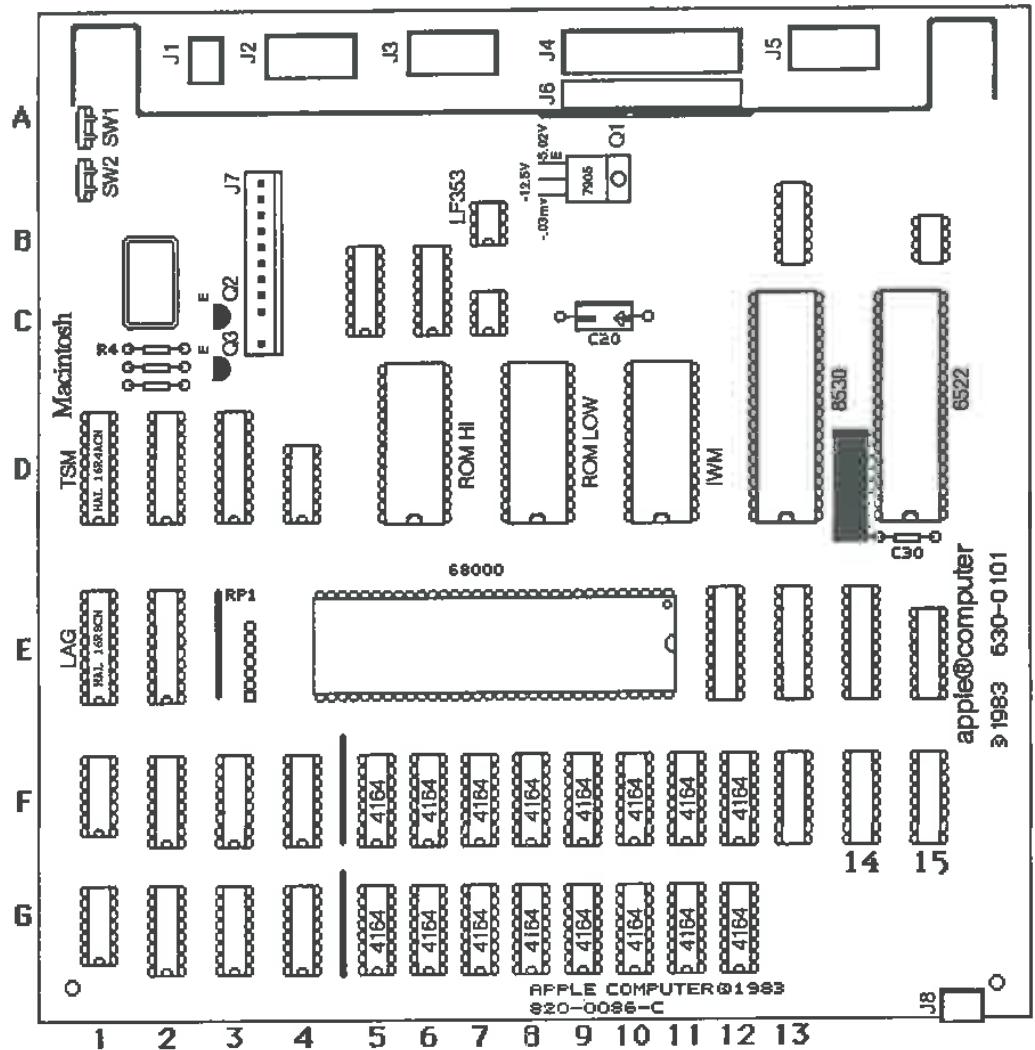
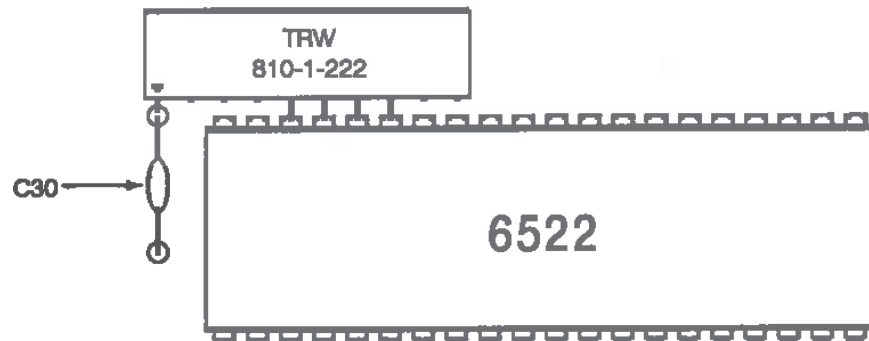

Figure 10-2 Early models of the 128K logic board bear part number 820-0086-C. Courtesy of Sophisticated Circuits, Inc.
Figure 10-8 6522/resistor network modification details.
As illustrated in Figures 10-2 to 10-3, there are two models of the 128K logic board. The easiest way to tell one from the other is by reading a part number stamped at grid locations G8 to G12. Early models bear part number 820-0086-C. Later models bear part number 820-0141-A. Since there are major differences between the two models, the component level upgrades vary. In addition, because the original RAM on both boards is soldered, not socketed, both upgrades are labor intensive. Allow yourself at least four hours to complete either project at the component level.
As illustrated in Figure 10-2, original model 820-0086-C logic boards should be checked for the presence of a resistor network on the 6522 VIA (Versatile Interface Adapter) chip. The earliest boards lack the resistor pack. Without it, the Mac tends to lock up. Installation, if necessary, is part of the upgrade.
1. Locate the sixteen 4164 64K RAM chips illustrated in Figure 10-2 at grid locations F5 to F12 and G5 to G12. Find their counterparts on the actual 820-0086-C logic board. Mark all 16 chips for removal. Use a fast-drying brightly colored nail polish. The idea here is to make absolutely sure that you don't cut away the wrong chip.
16. Refer to Figure 10-2. Check for the presence of a resistor network on the 6522 VIA chip. If you find one, skip to step 17. Otherwise, use a vacuum desoldering tool to clean the solder from pins 23, 24, 25 and 26 on the 6522 chip and also from the top of C30. Insert the resistor network into the desoldered holes, bend the body over 60 degrees so that it's relatively flat to the logic board (not standing straight up), and solder everything back together as shown in Figure 10-8.